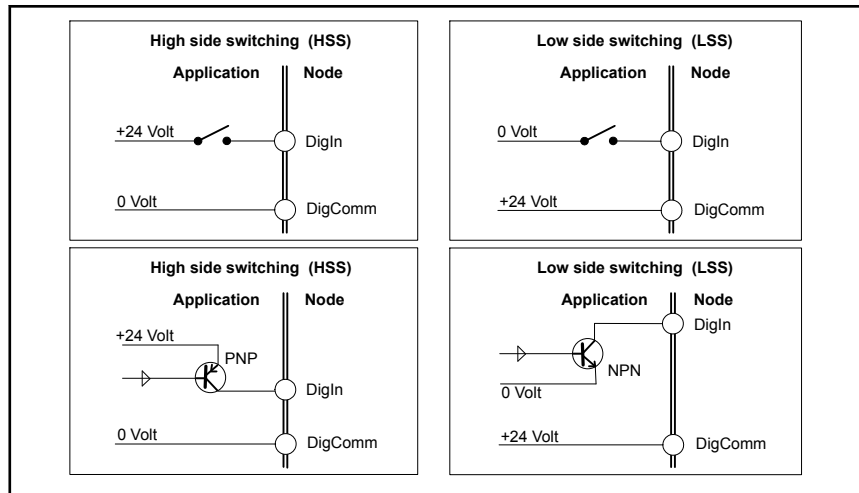
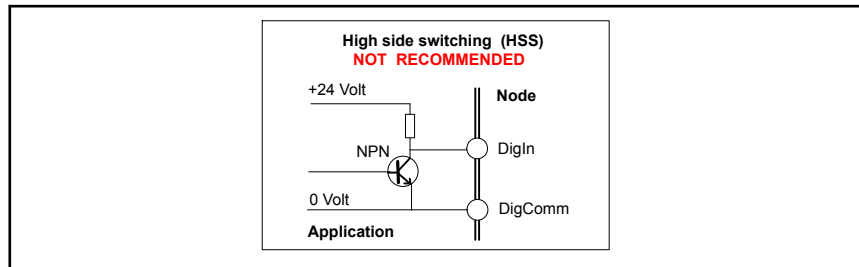

Fig. 9-6: HSS and LSS
Fig. 9-7: HSS with an NPN output transistor
- Keep in mind that these digital inputs do not have a high impedance. If the application uses an open collector output to connect to these digital inputs, use an NPN transistor for low side switching and use a PNP transistor for high side switching, see fig. 9-6 "HSS and LSS" on page 94. It is not recommended to use an NPN transistor output in combination with high side switching, as shown in fig. 9-7 "HSS with an NPN output transistor" on page 94.